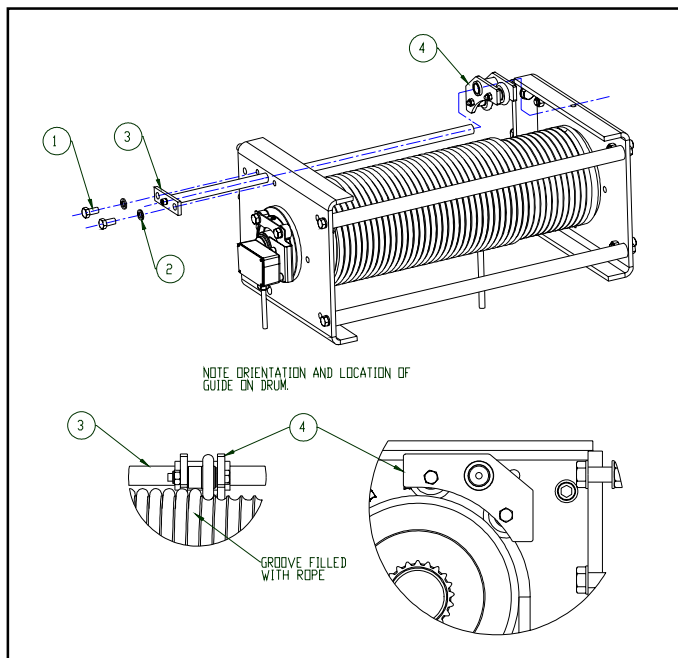

Figure 5-3b. Rope Guide Assembly ("D" Frame)
- (4) Remove the split plastic shroud (Item 2) from the drum. When reassembling the rope guide, be sure the plastic shroud (Item 2) fits snugly in the rope guide body groove.
- (5) Thoroughly clean and inspect all components.
- (6) Follow steps in reverse to reassemble. Be sure to regrease the rope guide with **MPG** (Paragraph 4-7), after assembling.
c) **Disassembly for "D" Frame.** Refer to Fig. 5-3b. For further assistance in locating components, refer to the parts list in Section IX.
- (1) Remove hex head cap screws and lock washers (Items 1 and 2). Pull back on drum frame rod assembly (Item 3) until the free end pulls free of the gearcase end drum bracket.
- (2) Slide the rope guide assembly (Item 4) off the end of the drum frame rod and remove from drum groove area. Note the required orientation of the rope guide assembly for re-installation.
- (3) Thoroughly clean and inspect all components.
- (4) Follow steps in reverse to re-install, paying attention to orientation and making sure to seat the assembly into the correct drum groove. Be sure to regrease the rope guide with MPG (Paragraph 4-7), after assembling.